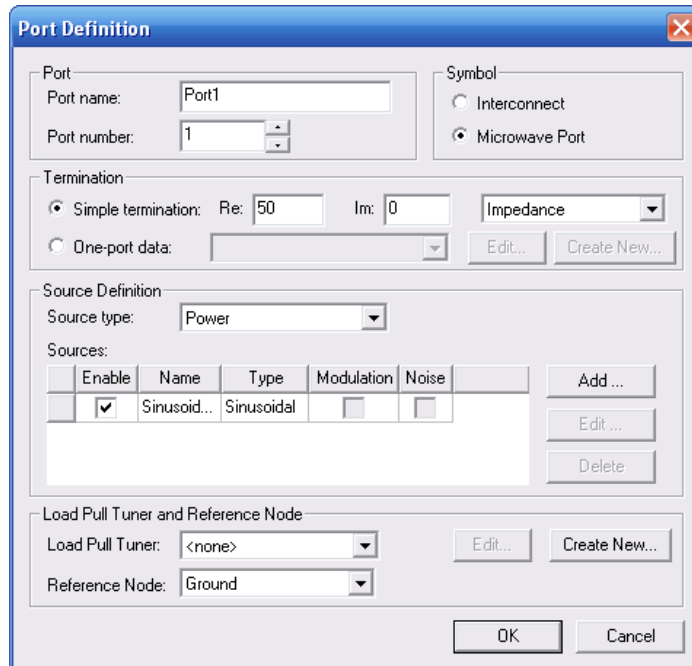

Figure 6. Port editing window.
13. Double click the source port to open its editing window. Change the options to a **Microwave Port** under **Symbol** in the upper right hand corner of the editing box. Add a source definition by clicking the **Add ...** button in the Source Definition box and then type in **1 mW** (which is 0 dBm) for property **p**. The editing box will look like Fig. 6 when everything is entered correctly.